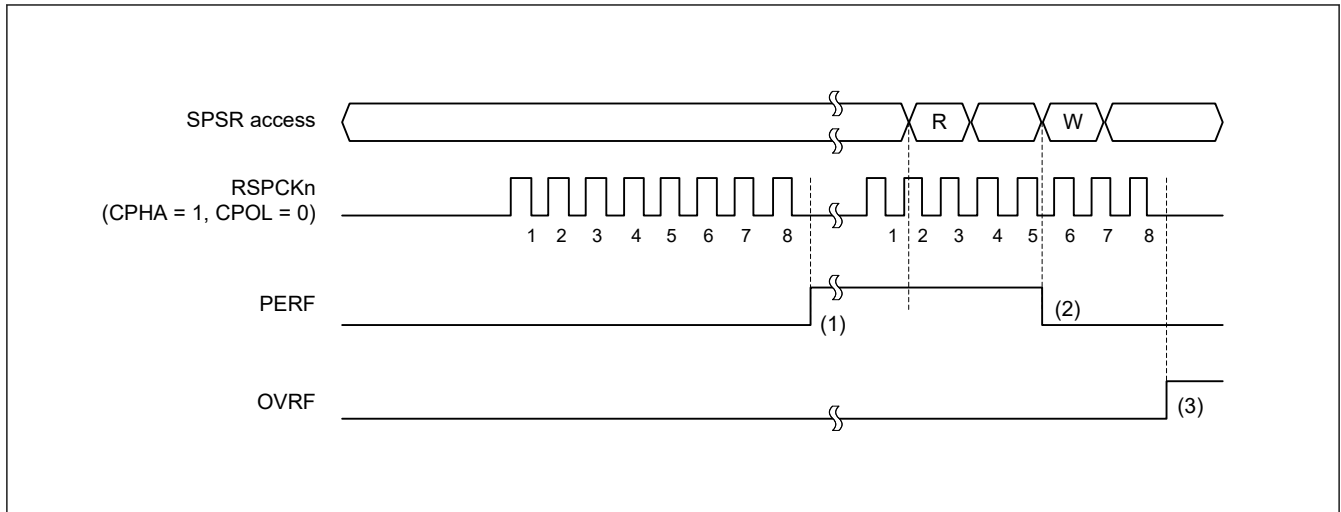

Figure 28.31 Operation example of the PERF flag
Figure 28.31 shows an example of operation of the OVRF and PERF flags. The SPSR access shown in Figure 28.31 indicates the condition of access to the register, where W denotes a write cycle, and R a read cycle. In this example, full-duplex serial communication is performed while the SPCR2.SPPE bit is 1. The SPI performs an 8-bit serial transfer when SPCMD0.CPHA bit is 1 and the SPCMD0.CPOL bit is 0. The numbers given for RSPCKn in the waveform represent the number of RSPCK cycles, such as the number of transferred bits.
The operation of the flags at timings (1) to (3) in Figure 28.31 is as follows: